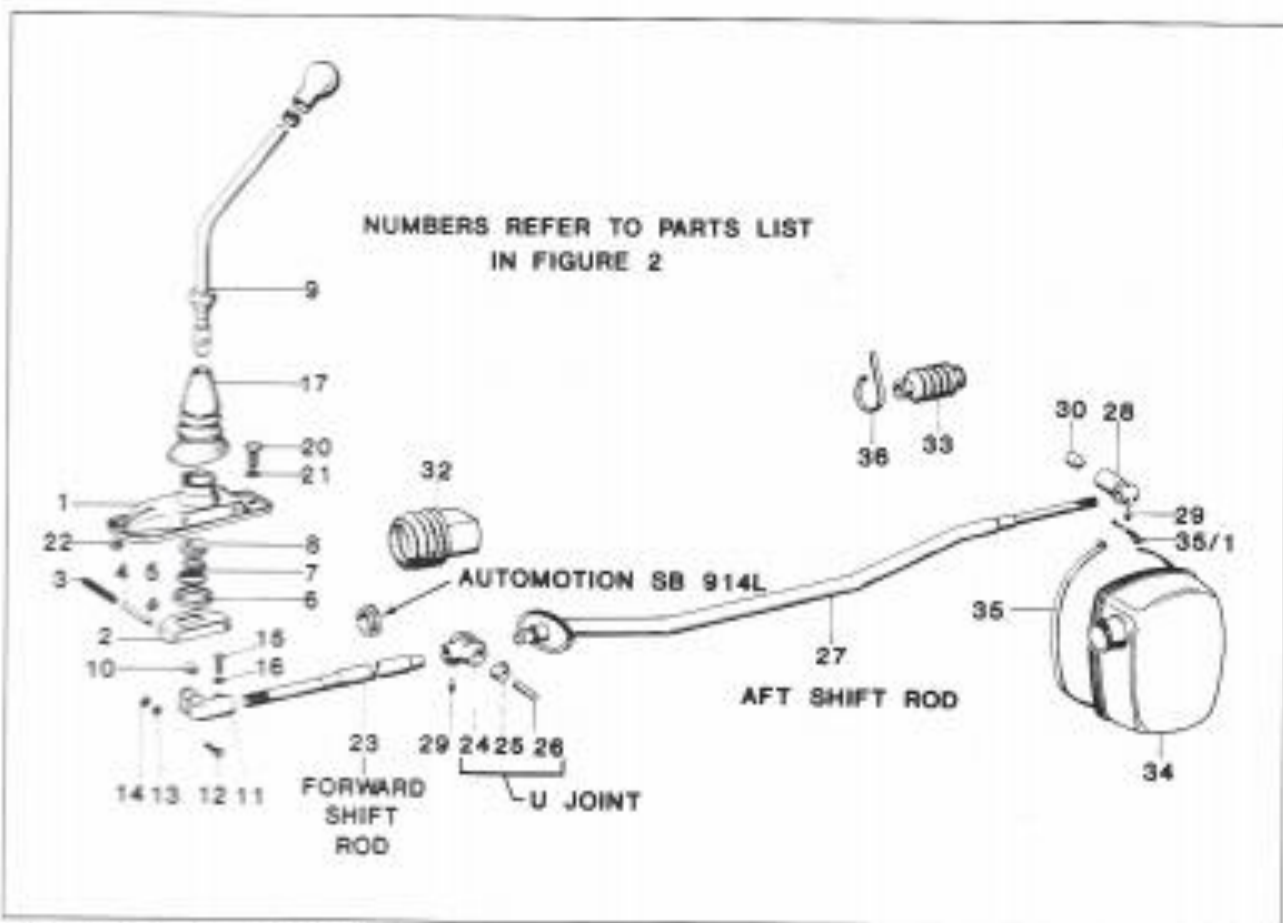

FIGURE 1. 914 Side Shifter Linkage Parts
* Corresponding component no. in Figure 1.
Once the old parts have been removed, installation of new parts can be initiated. Figure 1 shows a sketch of replacement parts for the side-shifter linkage. Part numbers corresponding to individual numbered com-
ponents in Figure 1 are tabulated in Figure 2. Required replacement parts may be available from a wrecking yard or may be ordered new from PCNA.
one optional finishing touch. The conversion leaves the shift rod universal joint (items 24, 25 and 26 in Figures 1 and 2) exposed to the elements as it is located aft of the firewall and there is no convenient attachment for the late model rubber boot cover. To complete the job and provide protection for the U-joint, an adapter plate can be built which will allow use of the production side-shifter boot (part number 32 in Figure 1, 914.424.169.02).